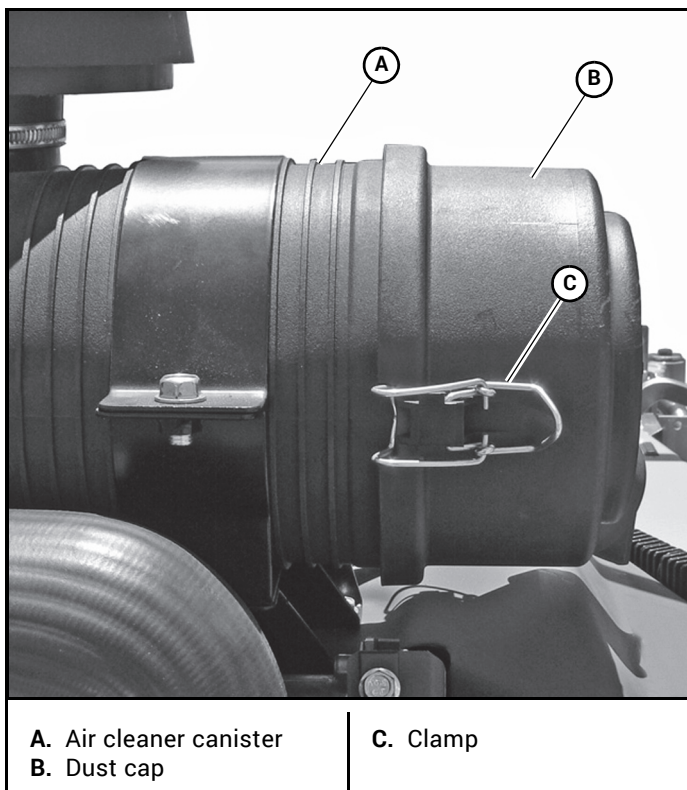

Figure 4-11
3. Reinstall the dust cap. Make sure it seals all the way around the air cleaner canister, then tighten the clamps. Figure 4-11